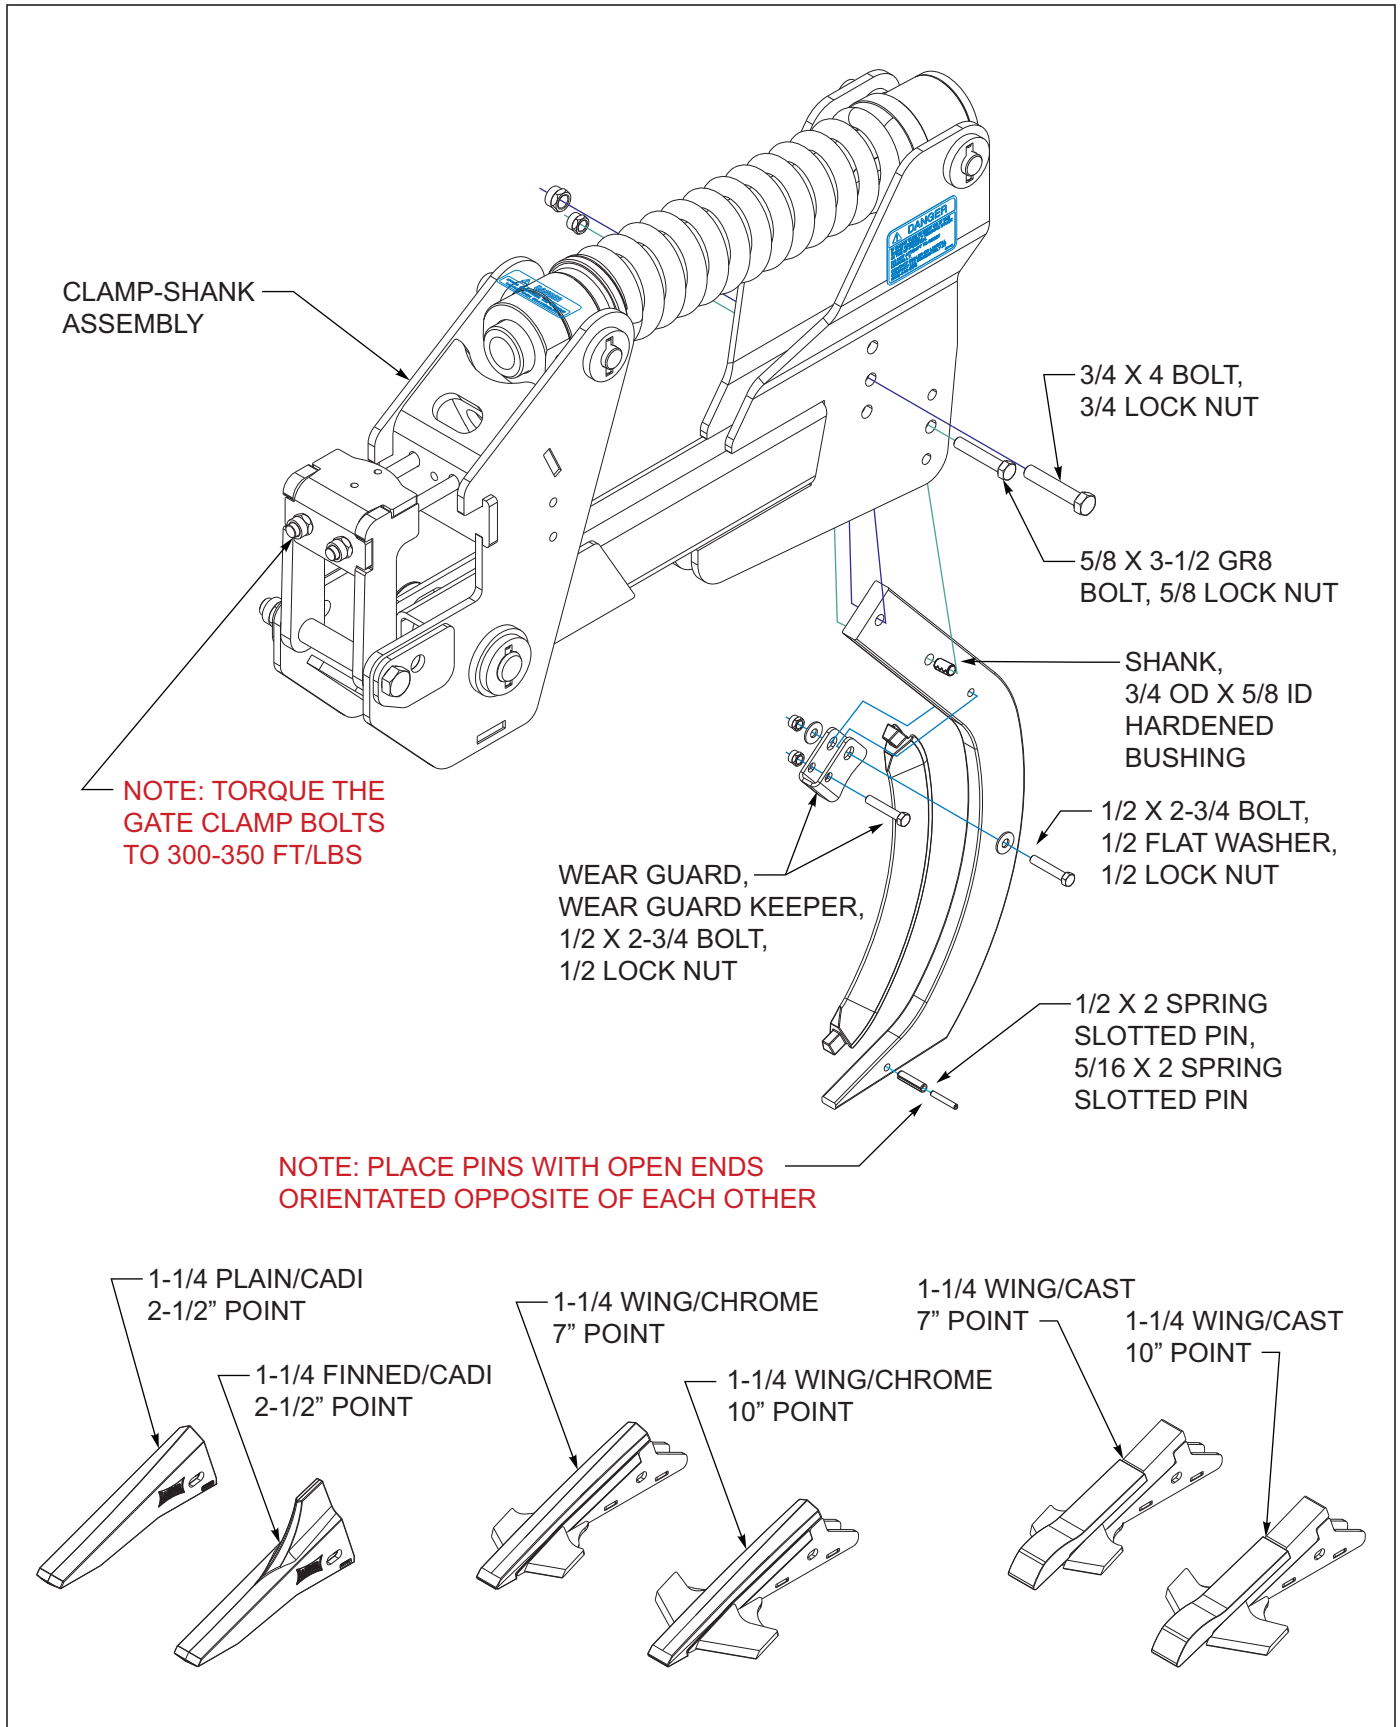

Figure 3-15: Auto Reset Shank and Point Installation
1. To attach the shanks to the clamp-shank assemblies that are already on the frame *See Figure 3-15.*, insert a 3/4 OD x 5/8 ID hardened bushing into the second hole from the upper end of the shank, this should be installed loosely on the 5/8" diameter bolt in the shank mount. Attach the shank to the front set of mounting holes in the clamp using 3/4 x 4 bolt and 3/4 locknut. Attach lower hole of shank to rear set of mounting holes in the assembly using 5/8 x 3-1/2 GR8 bolt and 5/8 locknut. Shank mounting bolts must be tightened to 200 FT-LBS (3/4 X 4) and 170-FT-LBS (5/8 x 3-1/2). Failure to do so may result in shank mount damage.